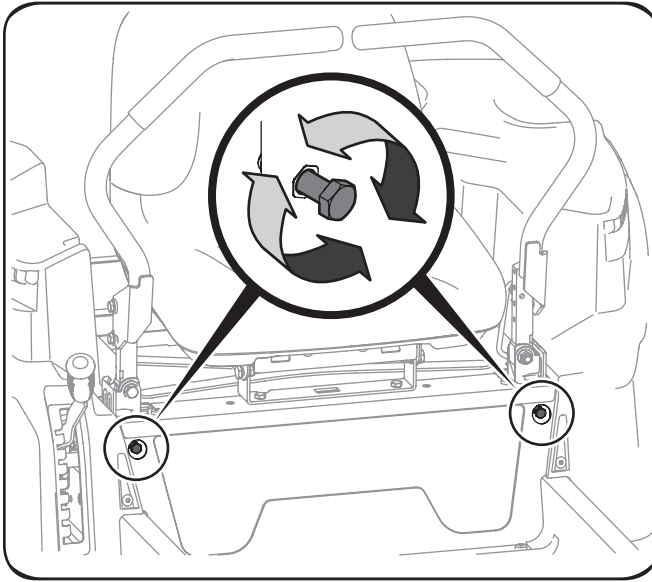

Figure 6-9
2. Locate the drive control lever stop adjustment bolts on the front of the seat frame. See Figure 6-9.